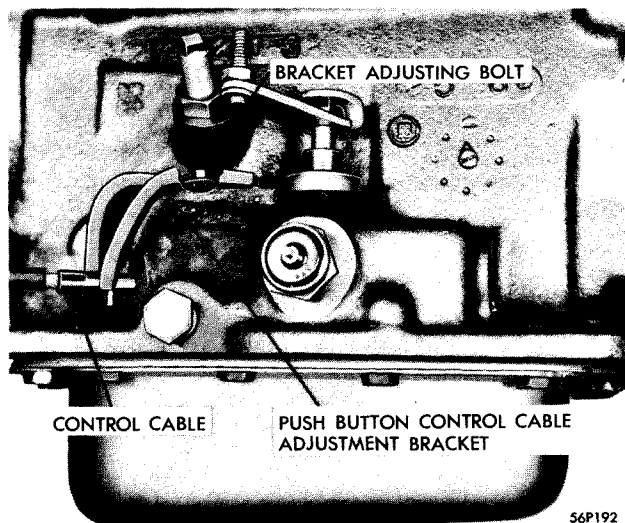

Figure 55—Control Cable Bracket
CABLE ADJUSTMENT—WITHOUT REMOVAL—Loosen the cable bracket screw (the cable bracket screw hole is elongated for adjustment) have someone hold the low (L) speed push button in its full length of travel to remove backlash from the cable actuator. Carefully position the cable bracket in the cable bracket recess on the cable and tighten screw. Check operation of push buttons to insure correct adjustment. See Figure 55.